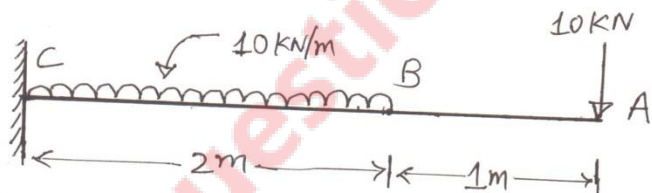

fig.4 Q.3Cb)
- (b) Draw Shear force and Bending moment diagram for a Beam as shown in fig4 **03**